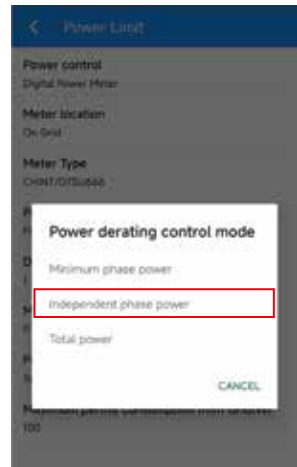

Figure 4-8 Power derating control mode
6. Set power derating control mode: Go to Console > Power Limit > Power derating control mode > Independent phase power. (*Figure 4-8*)
- Set power derating control mode: Go to Console > Power Limit > Power derating control mode > Independent phase power. (*Figure 4-8*)